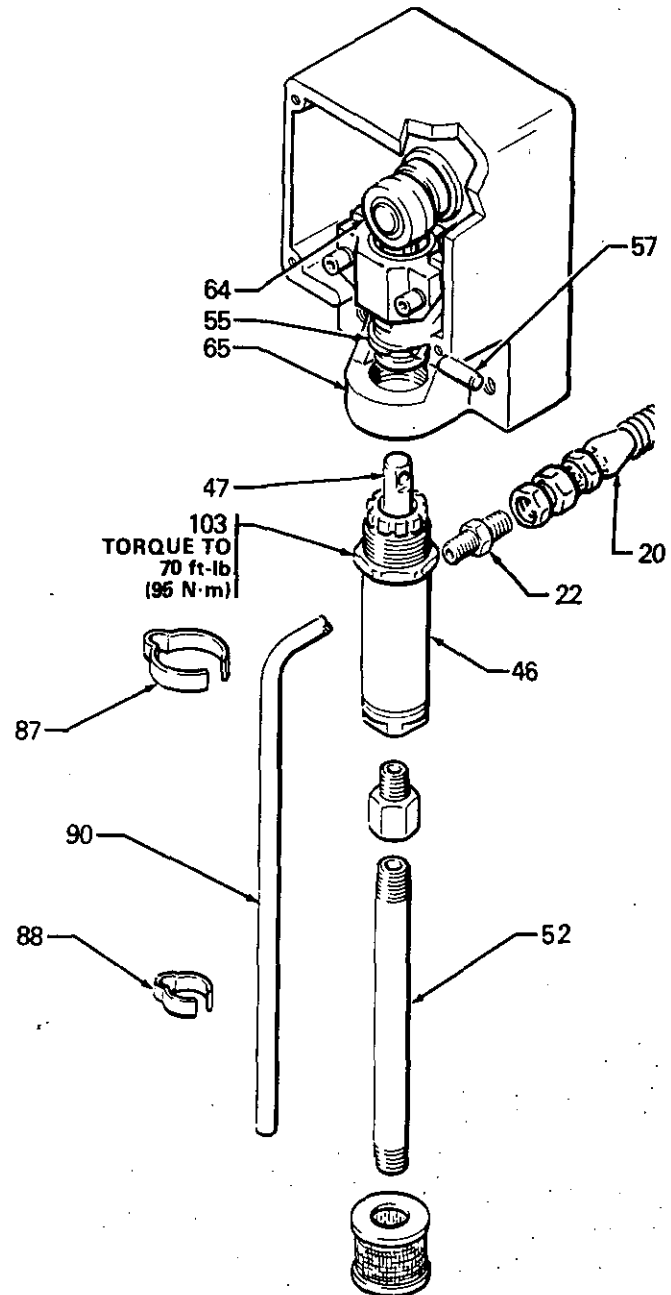

Fig 1
Unscrew and remove the suction tube (52). See Fig 1.
Disconnect the hose (20) from the nipple (22). See Fig 1.